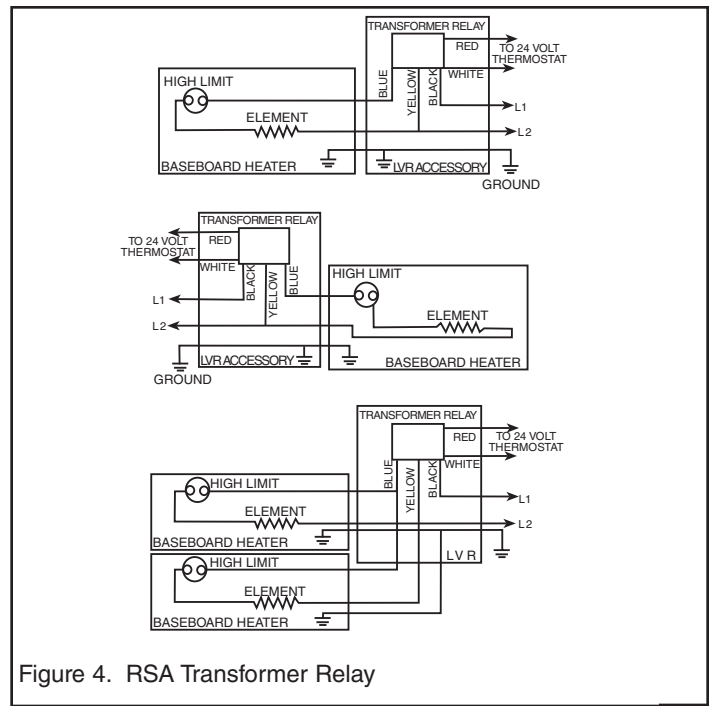

Figure 4. RSA Transformer Relay
5. Push the red and white transformer wires through the hole in the top of the baseplate. Make 24V thermostat connections in the compartment formed by the baseplate and the top of the wiring compartment. (See wiring diagram Figure 4).
6. For right end connection remove wire nut and connect power supply wire (L2) to the larger yellow wire and to the element lead wire. Connect power supply wire (L1) to larger black wire and connect blue wire to return wire. (See wiring diagram Figure 4).